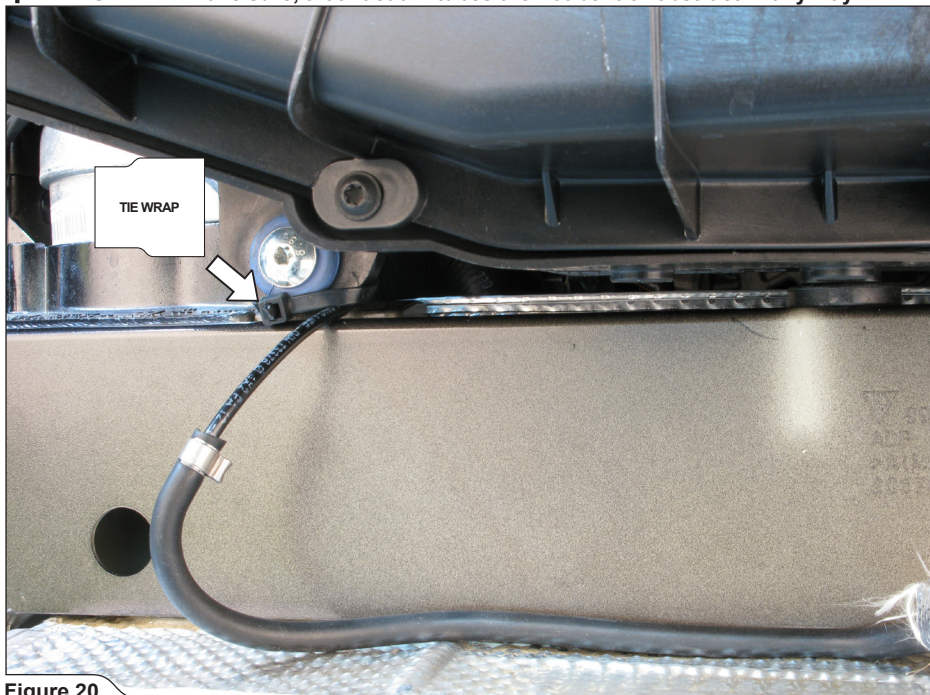

Figure 20
4. **For vehicles with non-sports original exhaust system only:** direct and secure the Akrapovič vacuum tubes, exactly as shown (Figure 20, 21).